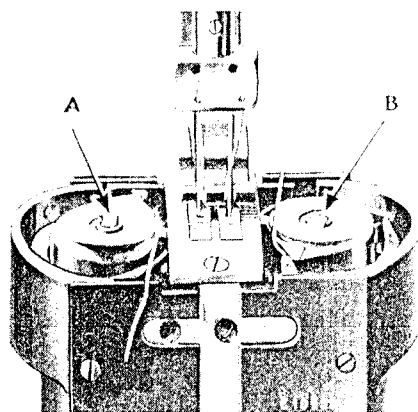

Fig. 12. Bobbin Case Caps Threaded and Replaced
To replace the bobbin case cap at the right of the post after threading, take the cap in the right hand holding the bobbin in the cap with the forefinger, and place it on the centre stud, then push down the latch (B), having the thread at the left of the projection as shown in Fig. 12, and replace the slide plate.
To replace the left bobbin case cap after threading, take the cap in the left hand holding the bobbin in the cap with the forefinger, and place it on the centre stud of the left bobbin case, then push down the latch (A), having the thread at the right of the projection as shown in Fig. 12, and replace the slide plate.